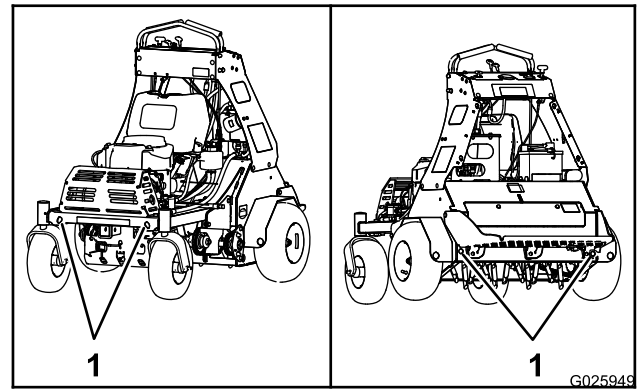

Figure 30
- Use the tie-down points on the machine to securely bind the machine to the trailer or truck with straps, chains, cable, or ropes (Figure 30).